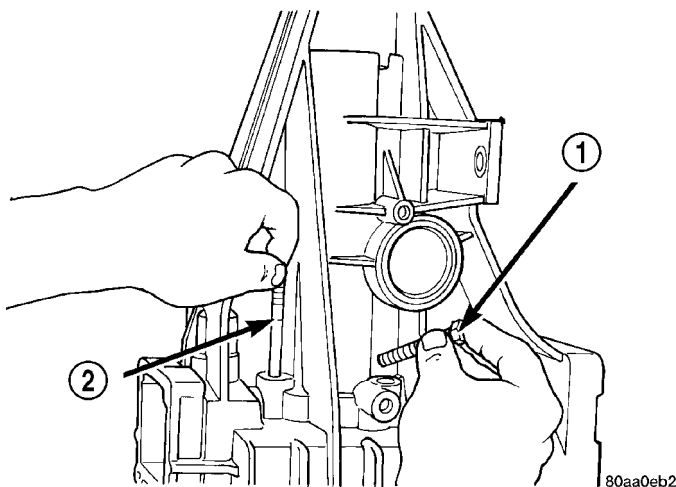

Fig. 100 PILOT STUD AND RETAINER BOLTS - 2WD
(10) Start first two bolts in retainer (Fig. 100). It may be necessary to move retainer rearward (with pilot stud) in order to start bolts in retainer.
(11) Remove Alignment Pin 8120 and install last retainer bolt (Fig. 100).
(12) Tighten all three retainer bolts to 30-35 N-m (22-26 ft. lbs.).